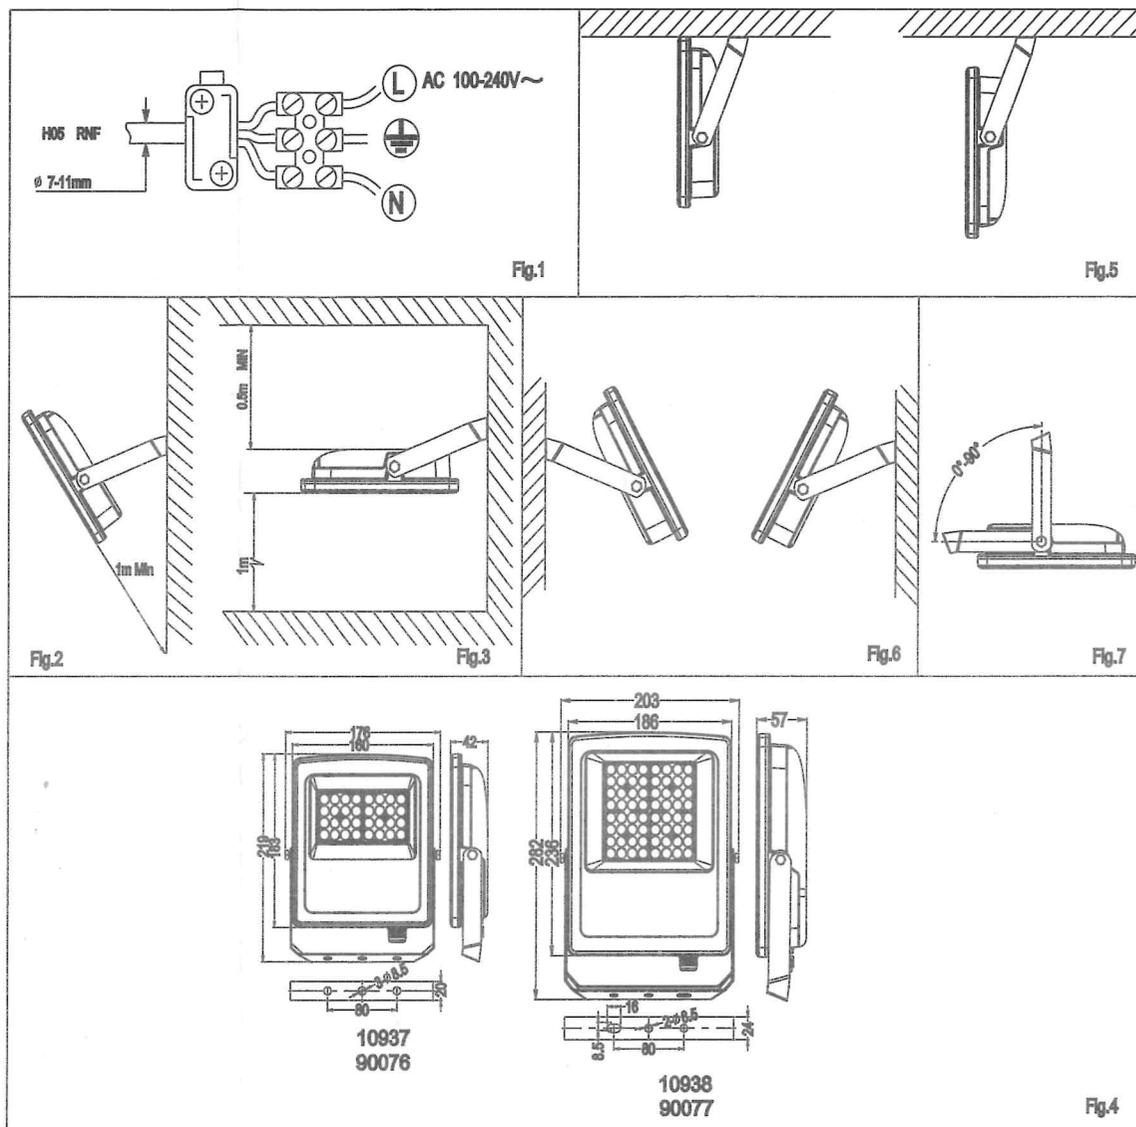

Fig.4
- Fix the supporting bracket of the LED floodlight by means of (at least) 2 screws M10 positioned in the outer holes of the bracket (Fig.4).